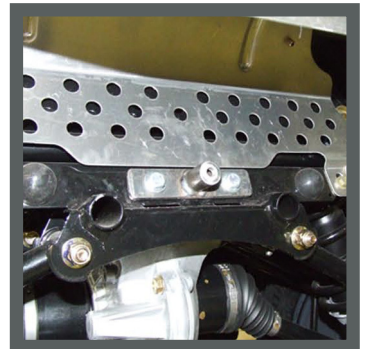

Figure 1
1. Using the supplied hardware, bolt on the **Mounting Bracket**. (See Figure 1)